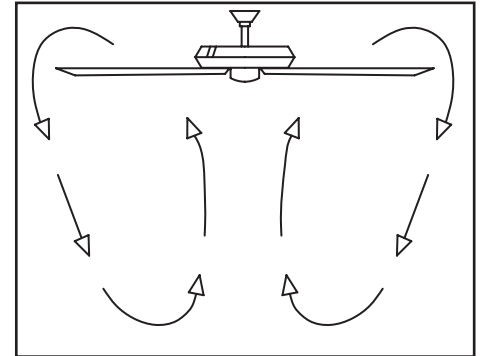

Figure 16
**Cool weather** - (Reverse) An upward air flow moves warm air off the ceiling as shown in Figure 16. This allows you to set your heating unit on a lower setting without affecting your comfort.